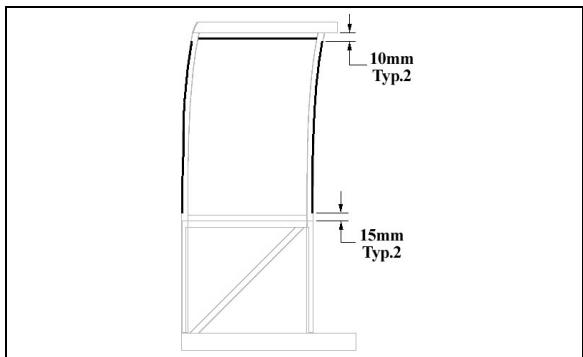

FIGURE 56 : SIDE WINDOW - $\frac{1}{4}$ X $\frac{1}{2}$ DOUBLE FACE ADHESIVE TAPE INSTALLATION
3. Apply $\frac{1}{4}$ " X $\frac{1}{2}$ " double face self adhesive tape on the slide-out structure for side fixed window (see FIGURE 56) [10mm≈3/8"] [15mm≈19/32"];